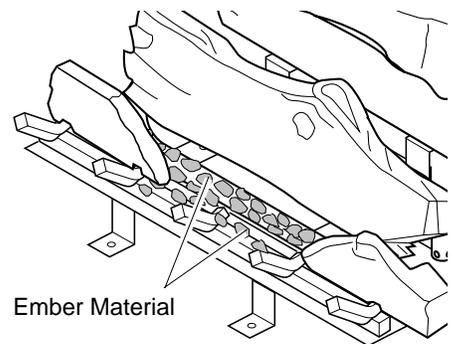

Figure 55 - Placing Ember Material on Burner
6. Pull ember material apart into pieces no larger than a dime. Place these pieces loosely and sparingly directly onto the exposed section of the front burner and along the space between the burner and grate prongs (see Figure 55). This will create the glowing ember appearance as the flame touches the ember material. Do not block air slots by using too much ember material in one area. It is not necessary to use all of the ember material provided.